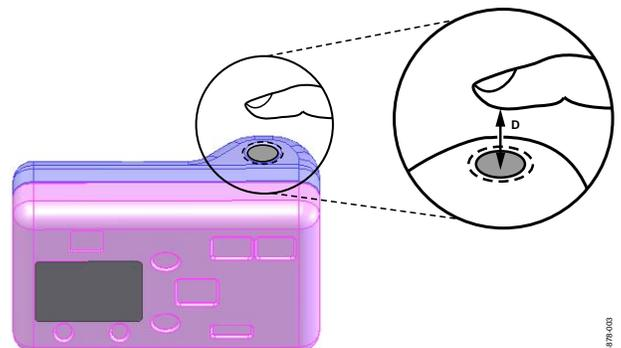

Figure 3. Finger Position "D" Above Shutter Button
Figure 3 shows a user's finger hovering over the shutter button at a distance (D) above the capacitive sensor ring. The sensitivity of the capacitance sensor ring determines when the user's finger is detected as it approaches the shutter button. If the sensitivity level is set too high, the autofocus motor is enabled longer than necessary, thus creating extra drain on the battery. To avoid this, the sensitivity should be set at a low level, requiring the user to make partial contact with the shutter button prior to the AD7142 asserting the interrupt output.